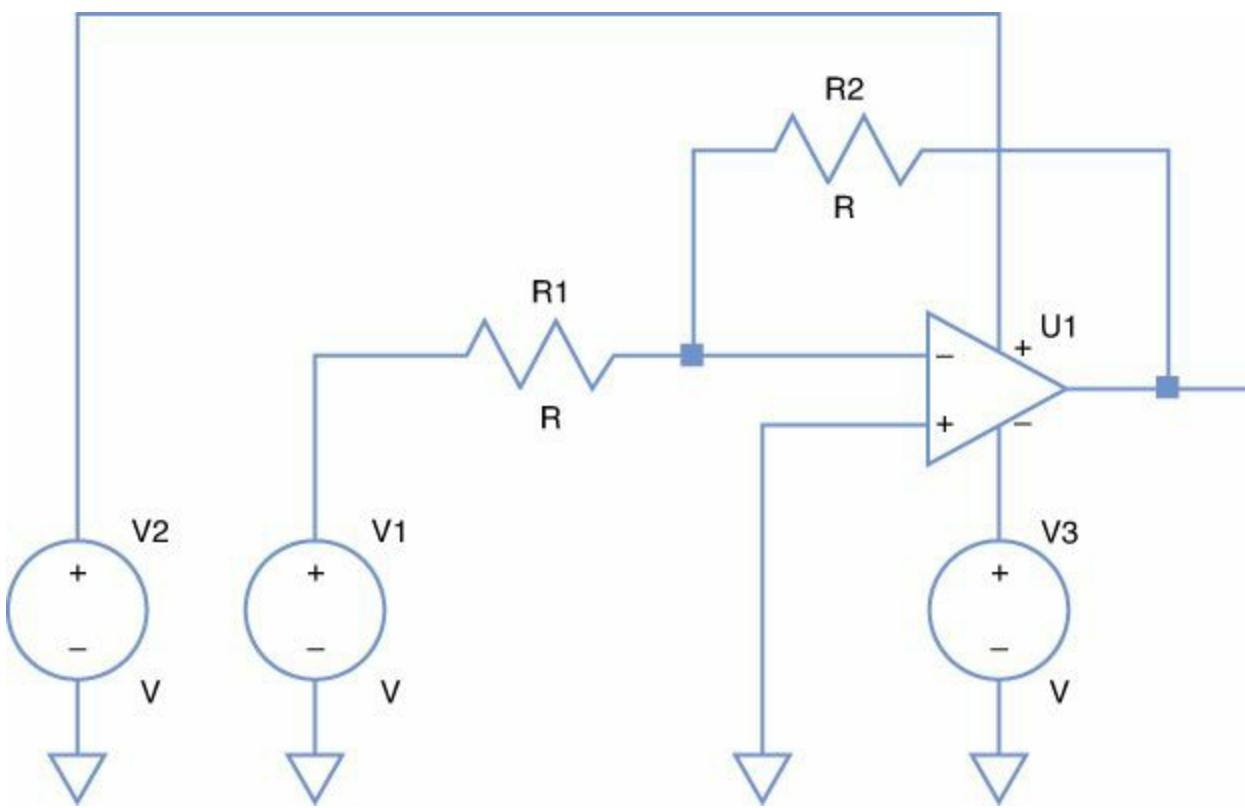

Figure 9.5: The Inverting Amplifier Circuit in LTspice
The components' exact positions aren't important, but an orderly arrangement makes it easier to view the circuit and create connections. For now, the goal is to position the 10 circuit elements in the manner presented in Figure 9.5.
5. Rotate the two resistors from vertical to horizontal, and move all the components in the manner shown in Figure 9.5.
6. Draw connections between the circuit's components as shown in Figure 9.5.
7. The input resistor (R1 in Figure 9.5) connects a voltage supply to the op-amp's negative terminal. Change the resistor's name to Ri and its value to 1k. Change the other resistor's name to Rf and its value to 5k.